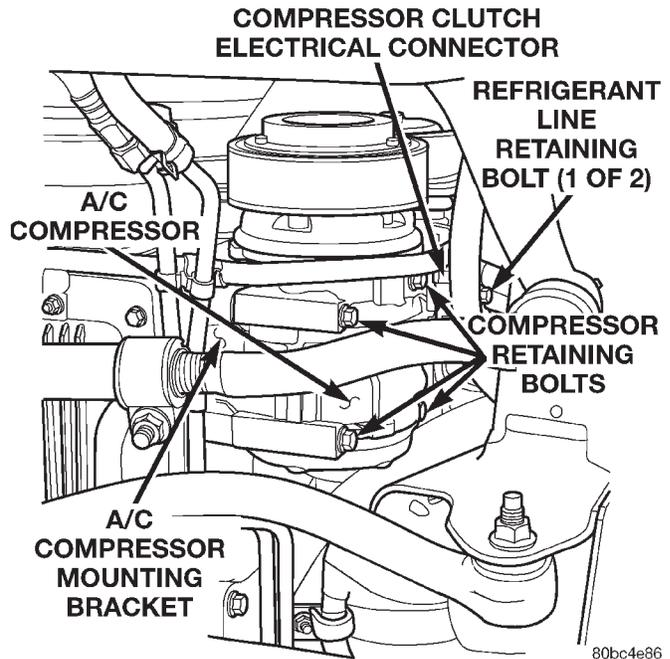

Fig. 28 Compressor Position & Orientation
- (1) Disconnect the negative battery cable.
- (2) Recover the refrigerant from the refrigerant system. Refer to Refrigerant Recovery in the Service Procedures section of this group.
- (3) Remove the accessory drive belt from the compressor clutch. Refer to Accessory Drive Belt in Group 7, Cooling System for the procedure.
- (4) Raise the vehicle on the hoist.
- (5) Remove the front splash shield.
- (6) Remove the (2) refrigerant line retaining bolts from the compressor (Fig. 28). Remove both lines from the compressor and cover all openings.
- (7) Disconnect the compressor electrical connector (Fig. 28).
- (8) Remove the (4) compressor mounting bolts and remove the compressor from the vehicle.